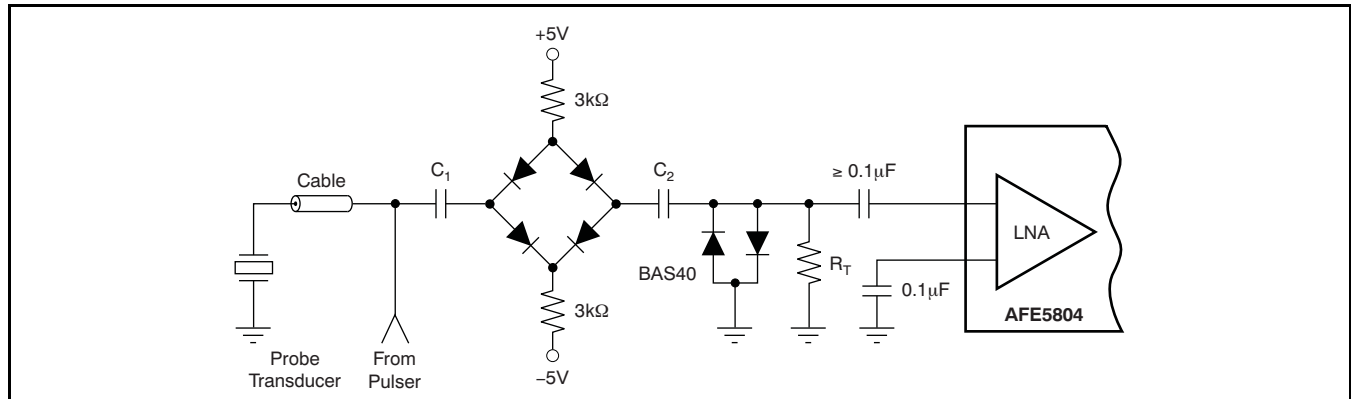

Figure 100. Typical Input Overload Protection Circuit of an Ultrasound System
The AFE5804 is designed in particular for ultrasound applications where the front-end device is required to recover very quickly from an overload condition. Such an overload can either be the result of a transmit pulse feedthrough or a strong echo, which can cause overload of the LNA, PGA, and ADC. As discussed earlier, the LNA inputs are internally protected by a pair of back-to-back diodes to prevent severe overload of the LNA. Figure 100 illustrates an ultrasound receive channel front-end that includes typical external overload protection elements. Here, four high-voltage switching diodes are configured in a bridge configuration and form the transmit/receive (T/R) switch. During the transmit period, high voltage pulses from the pulser are applied to the transducer elements and the T/R switch isolates the sensitive LNA input from being damaged by the high voltage signal. However, it is common that fast transients up to several volts leak through the T/R switch and potentially overload the receiver. Therefore, an additional pair of clamping diodes is placed between the T/R switch and the LNA input. In order to clamp the over-voltage to small levels, Schottky diodes (such as the BAS40 series by Infineon®) are commonly used. For example, clamping to levels of $\pm 0.3\text{V}$ can significantly reduce the overall overload recovery performance. The T/R switch characteristics
As Figure 100 shows, the front-end circuitry should be capacitively coupled to the LNA signal input (IN). This coupling ensures that the LNA input bias voltage of $+2.4\text{V}$ is maintained and decoupled from any other biasing voltage before the LNA.
Within the AFE5804, overload can occur in either the LNA or the PGA. LNA overload can occur as the result of T/R switch feedthrough; and the PGA can be driven into an overload condition by a strong echo in the near-field while the signal gain is high. In any case, the AFE5804 is optimized for very short recovery times, as shown in Figure 100.